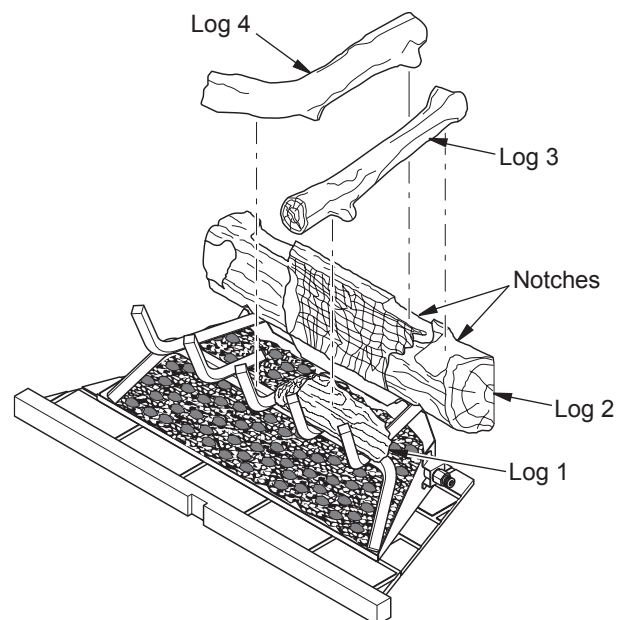
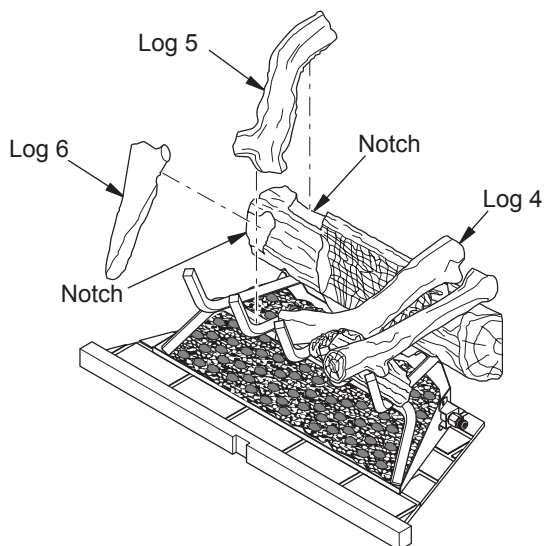
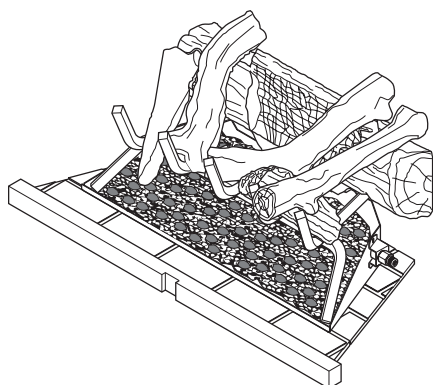

Figure 26 - Installing Logs 3 and 4
Figure 27 - Installing Logs 5 and 6
Figure 28 - Logs Installed for M36, M36P, VM36 and VM36P Models
3. Place log 3 into notch on log 2, resting the front end on top of log 1 (see Figure 26).
4. Place the upper end of log 4 into the notch on log 2 as shown in Figure 26. Rest the lower end of log 4 onto the middle grate finger as shown in Figure 27.
- Place the upper end of log 5 into notch on the left of log 2 (see Figure 27). Rest the lower end of log 5 on the grate as shown in Figure 28.
- Insert the lower end of log 6 between the first two grate fingers as shown in Figure 28 and position the upper end of log 6 into the notched area on the front of log 2 as shown in Figure 28.